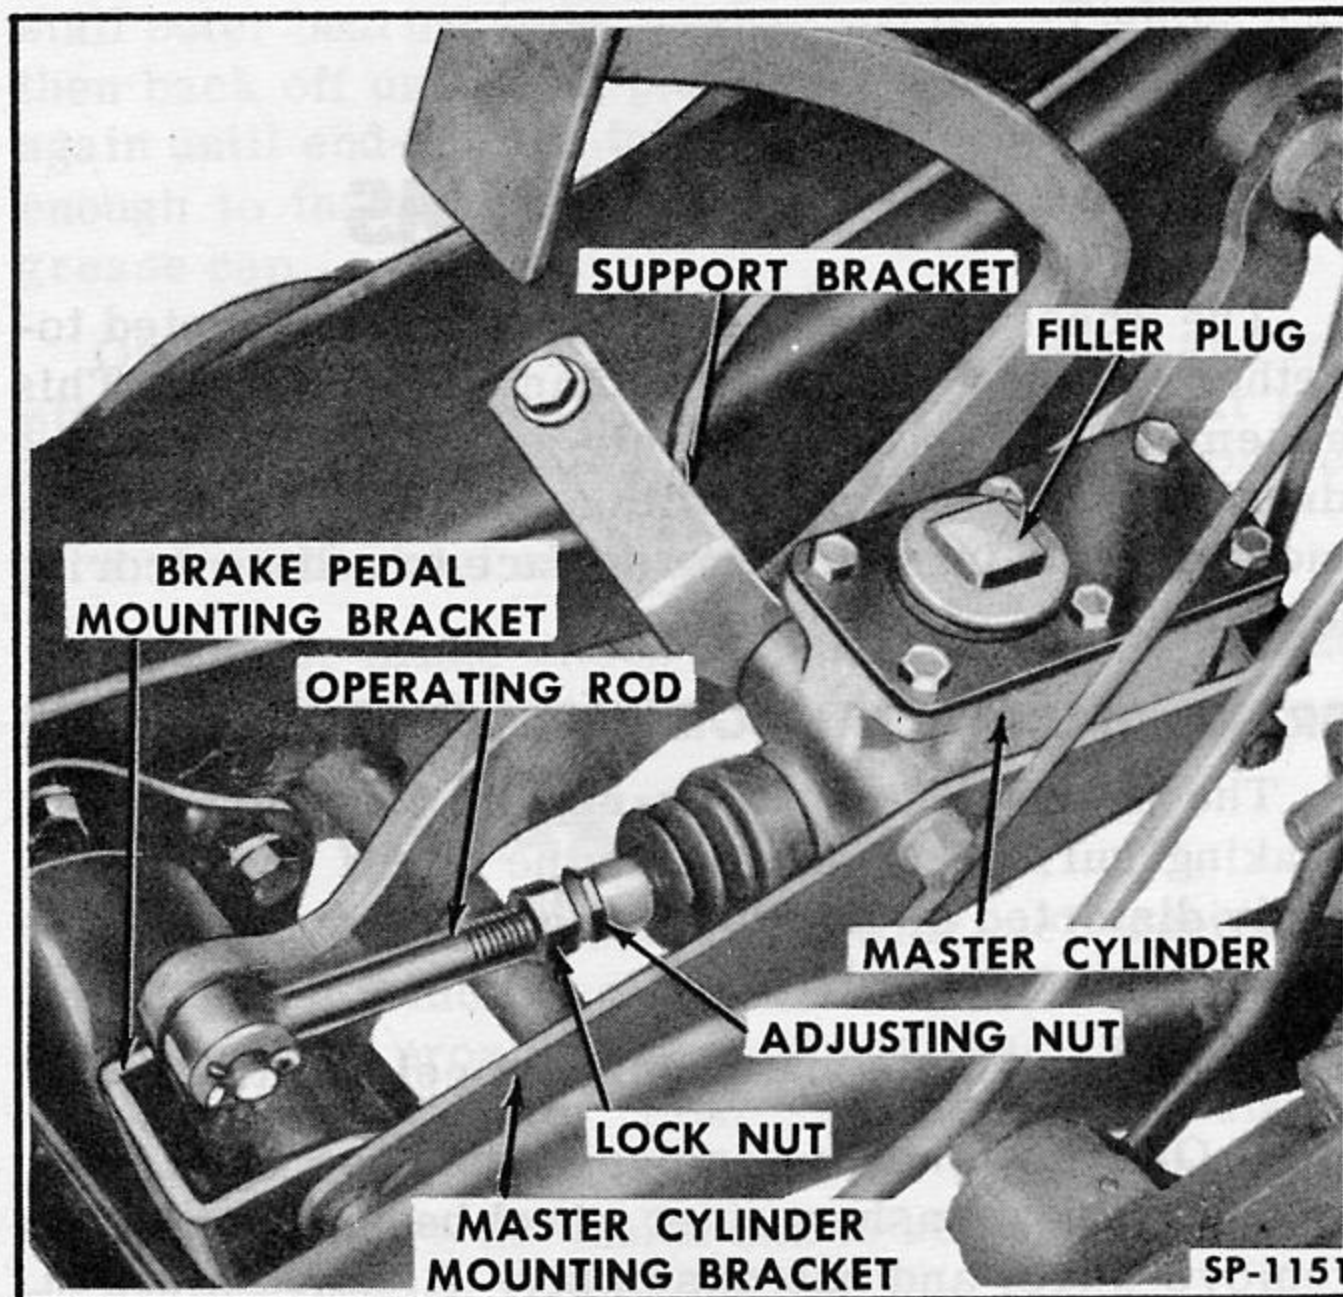

Fig. 205—Master Cylinder Mounting
1. Remove cotter pin and washer and disconnect master cylinder operating rod from brake pedal arm (Fig. 205).